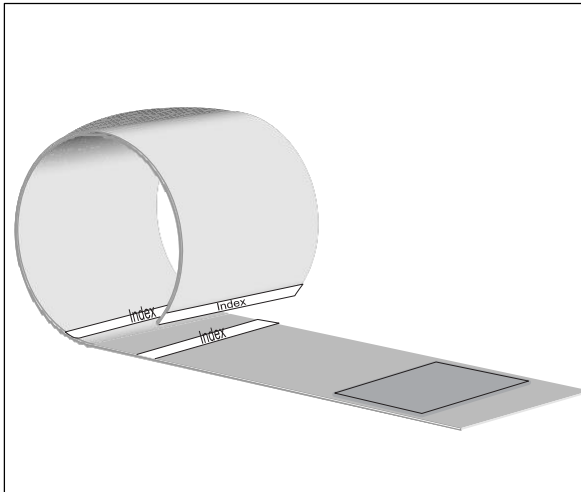

Fig. 4-2 Applying the cuff
- the dashed white line at the end of the cuff is located between the two dashed Index lines when you close the cuff (if this is not the case, select another cuff size, Fig. 4-2)